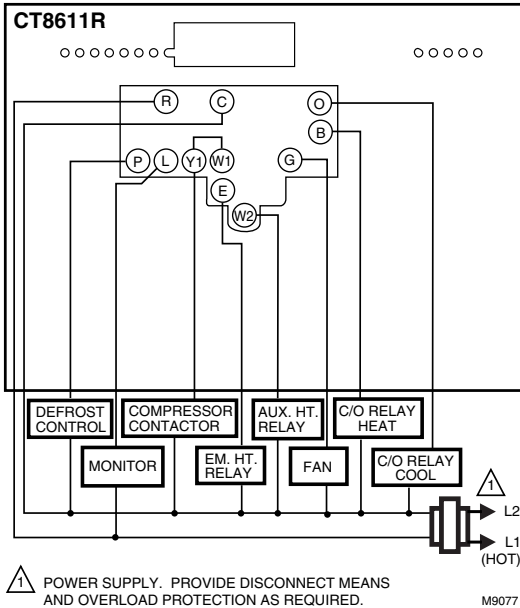

Fig. 4—Typical hook up of CT8611 with jumper intact.
□ Figs. 4 and 5 illustrate typical hookups for the CT8611 heat pump thermostat.